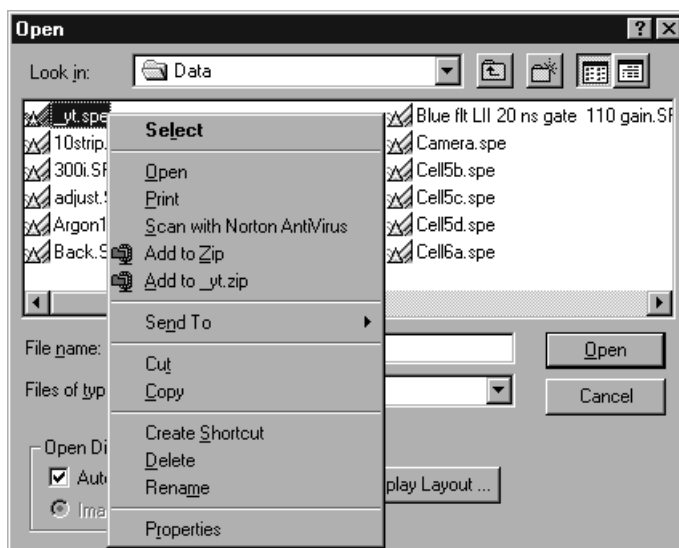

Figure 59. Right-click File Operations menu
2. Position the mouse cursor on the name of the file you want to delete and click the *right* mouse button. This will open the “right-click” File operations menu, as shown in Figure 59.